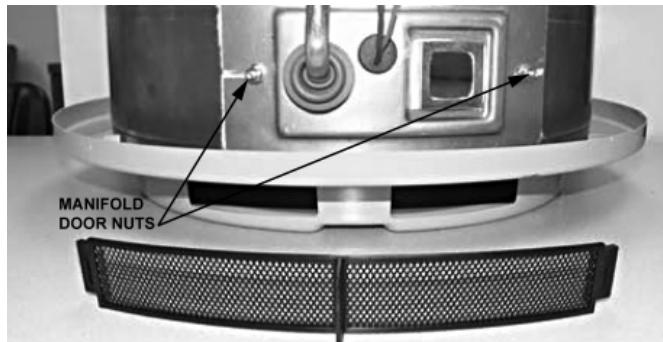

Figure 3
- Remove the 3/8" manifold door nuts, holding the inner door and white gasket in place, see Figure 3.